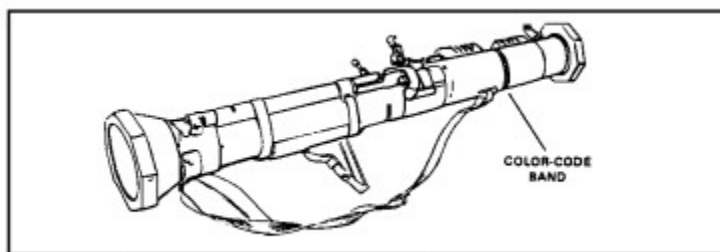

Figure 1-7. Location of Color-Code Band.
k. Launcher Color-Code Band. The launcher color-code band is between the front and the rear sights (shown in Figure 1-7).